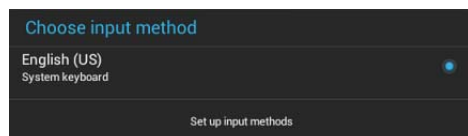

FIG. 87 Choose Input Method window
1. In the *Language & Input* page, under *KEYBOARD & INPUT METHODS*, press **Default** to open the *Choose Input Method* window (FIG. 87):